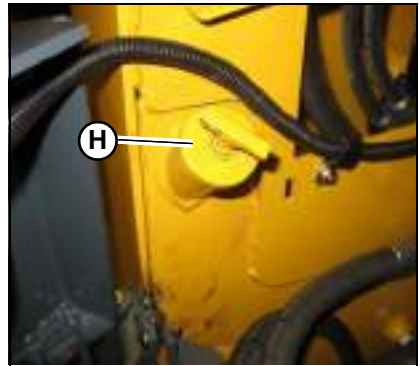

Figure 108 – Hydraulic Oil Fill
5. If the hydraulic oil level is low, remove the hydraulic tank filler cap (H, Figure 108), located in the left engine compartment wall.
4. Slowly loosen hydraulic oil filler cap (H, Figure 108).
11. Remove hydraulic oil filler cap (H, Figure 108) and fill the hydraulic oil reservoir until the oil level is correct (Y, Figure 107).